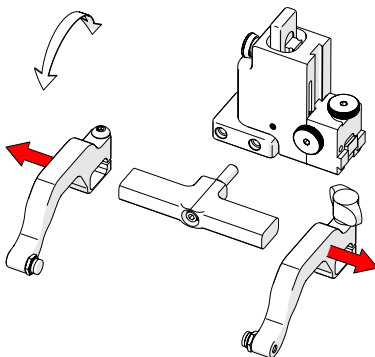

Fig. 119 - Remove probe holder arms
3. Loosen the arm clamp screw and the probe holder arm adjustment knob allowing removal of the probe holder arms (Fig. 119).